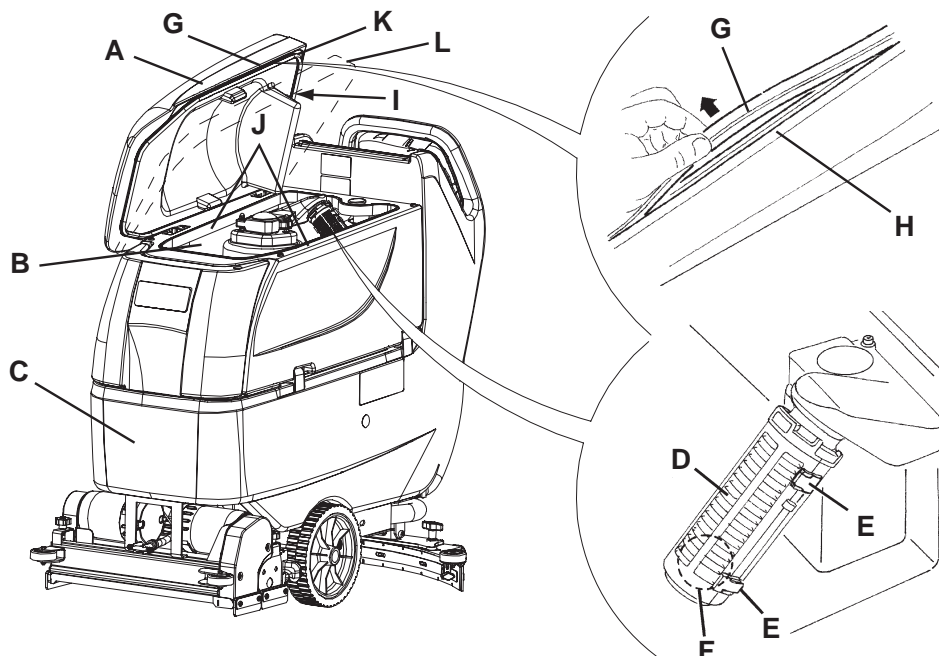

Figure 7
2. Turn the ignition key (80) to "0" position.
3. Open the cover (A, Fig. 7) to washing position (L).
4. Wash with clean water the cover (A), the tanks (B and C) and the vacuum grid with automatic shut-off float (D).